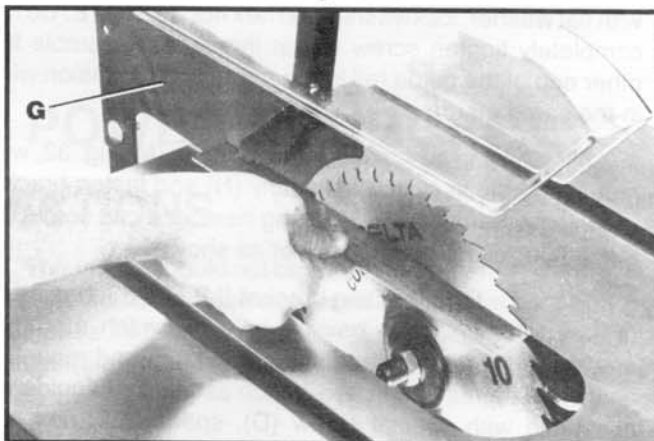
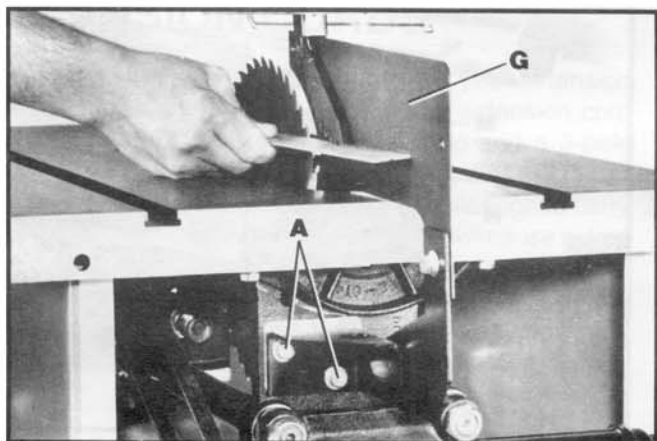

Fig. 26
Fig. 27
9. Using a straight edge, check to see if the saw blade is aligned with the rear of the splitter (G), as shown in Figs. 26 and 27. If alignment is necessary, loosen the screws (A) Fig. 27, align splitter (G) with the saw blade and tighten two screws (A).